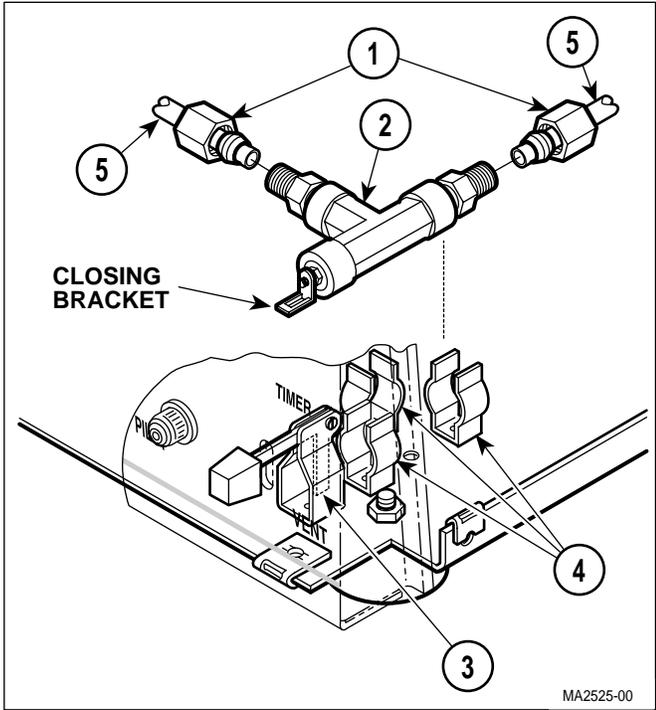
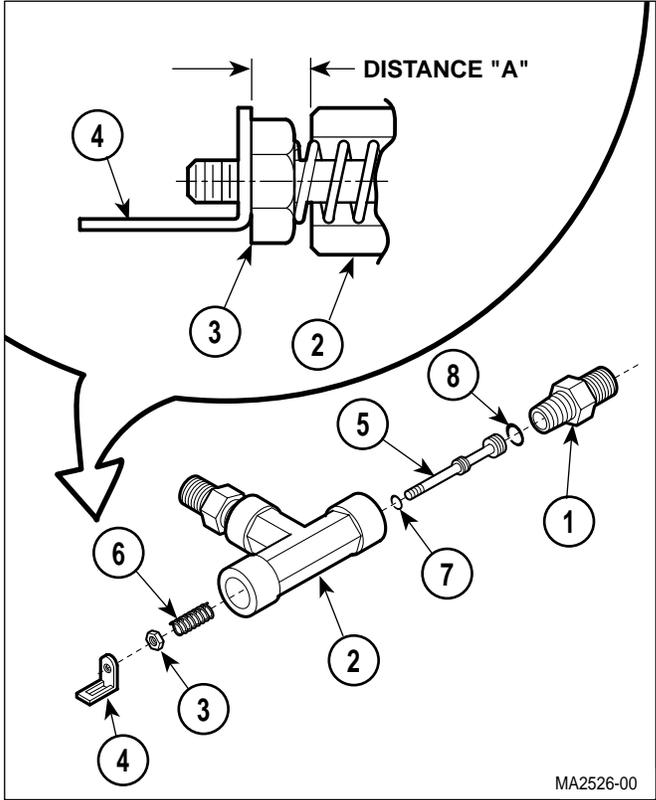

Figure 4-18. Fill / Vent Valve Removal / Installation
Figure 4-19. Fill / Vent Valve Assembly Disassembly / Assembly
- (2) Loosen and disconnect two compression nuts (1, Figure 4-18) from fittings of fill / vent valve assembly (2).
- (3) Disengage closing bracket of fill / vent valve assembly (2) from fill / vent lever (3) by lifting up on back end of fill / vent valve assembly first and then pulling it out of brackets (4).
(1) Remove fitting (1, Figure 4-19) from valve body (2).
- (1) Install fill / vent valve assembly (2, Figure 4-18) in brackets (4), making sure fill / vent lever (3) is inserted in slot of closing bracket.
- (2) Position tubes (5) and screw compression nuts (1) onto fittings of fill / vent valve assembly (2).
- (3) Install cover assembly (Refer to para 4.2).
- (4) Test operation of fill / vent valve. If water will not flow or flows very slowly when fill / vent lever is depressed, lengthen Distance A slightly. See Figure 4-19.